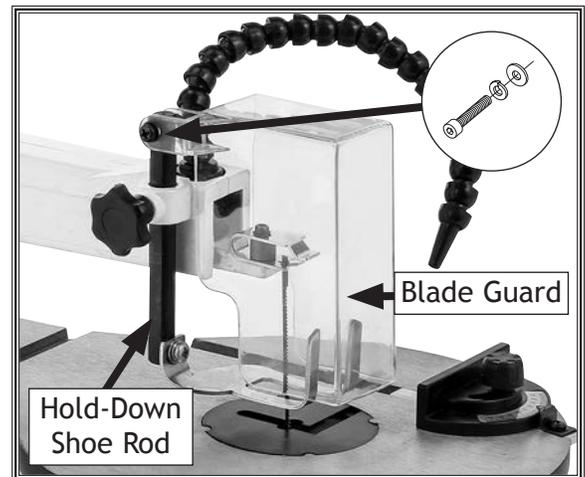

Figure 10. Blade guard installed.
1. Remove pre-installed cap screw, lock washer, and flat washer from top of hold-down shoe rod shown in **Figure 10**.
2. Attach blade guard to top of hold-down shoe rod with cap screw, lock washer, and flat washer (see **Figure 10**).